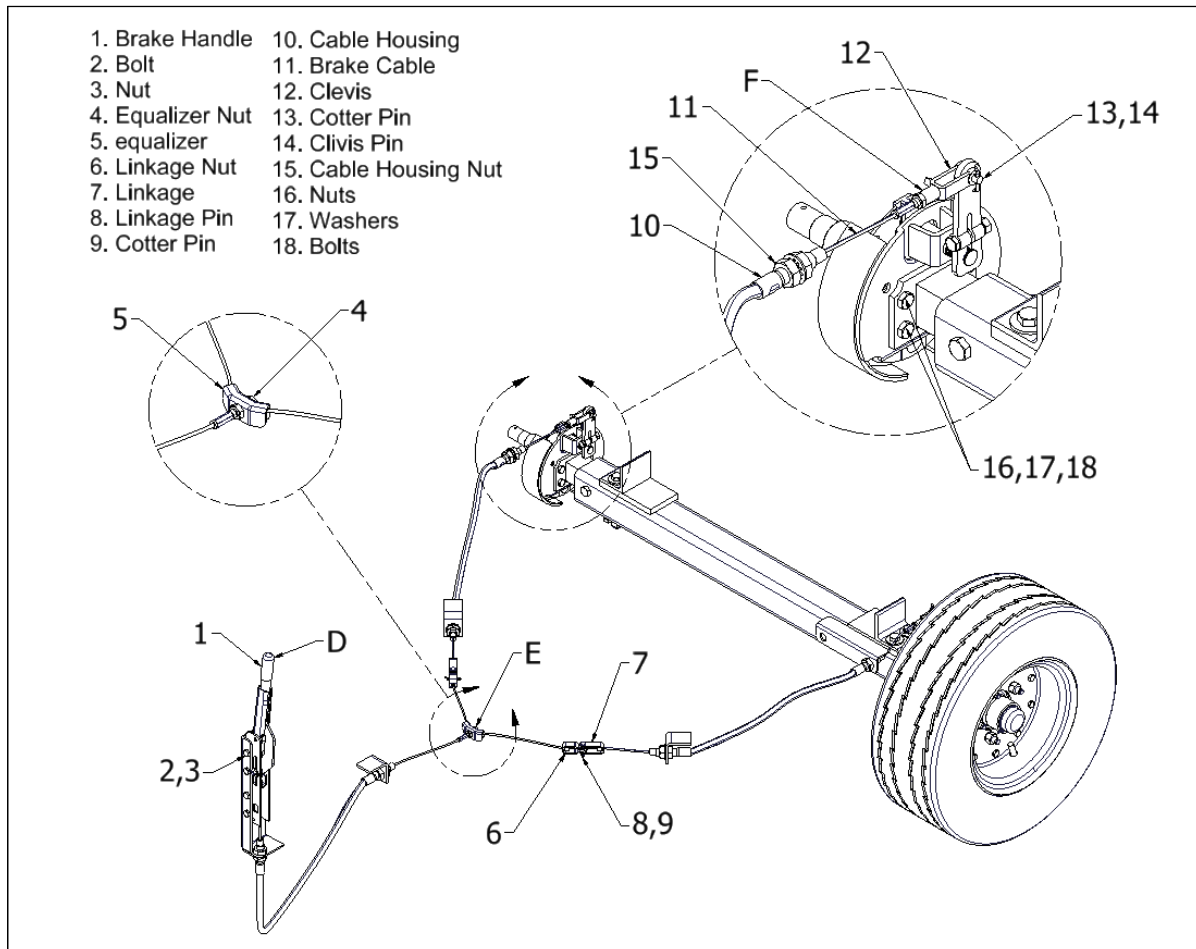

Figure 4-22 Brake and Cable Assembly
- Remove brake cable end from arm (5) as described in section Section 4.20, step (a).
- Remove nuts (16), washers (17), and bolts (18) shown in Figure 4-22.
- Remove spring (3).
- Release brake shoes (2) by removing springs (9) from the backing plate (1).
- Remove nut (7), lock washer (8), and bolt (6) to release arm (5).
- Remove brake cam (4) by pulling directly outward.
An in-field adjustment can be made at the brake handle by turning the handle cap clockwise to tighten brakes and counterclockwise to loosen the brakes (see reference arrow D in Figure 4-22.) This adjustment must be made with the brake handle in the off position. Maintenance level adjustments can be made at reference arrow E and reference arrow F of Figure 4-22 (each side).